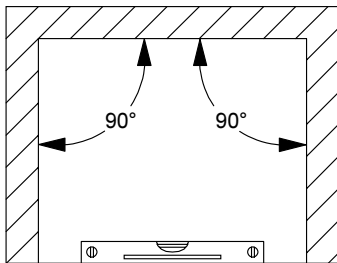

Figure 2. Floor Must Be Level
- 2.2. Check that the floor is level. Use a level of 6' 0" (1829 mm) minimum length (**Figure 2**).